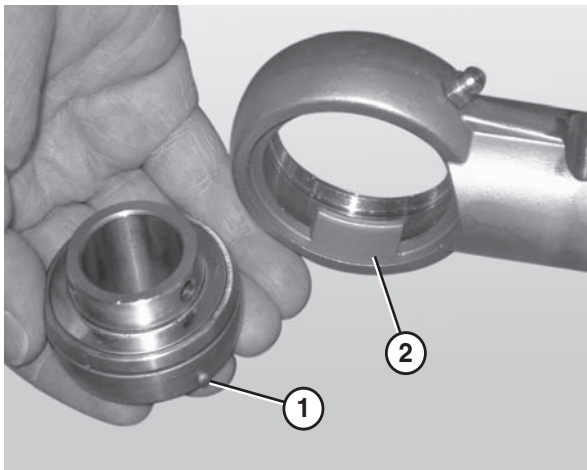

Figure 83
4. Remove the worn or damaged bearing (**Figure 83**).
| When inserting the new bearing, make sure the anti-rotation notch (Figure 83, item 1) on the bearing lines up with the groove inside the housing (Figure 83, item 2). |